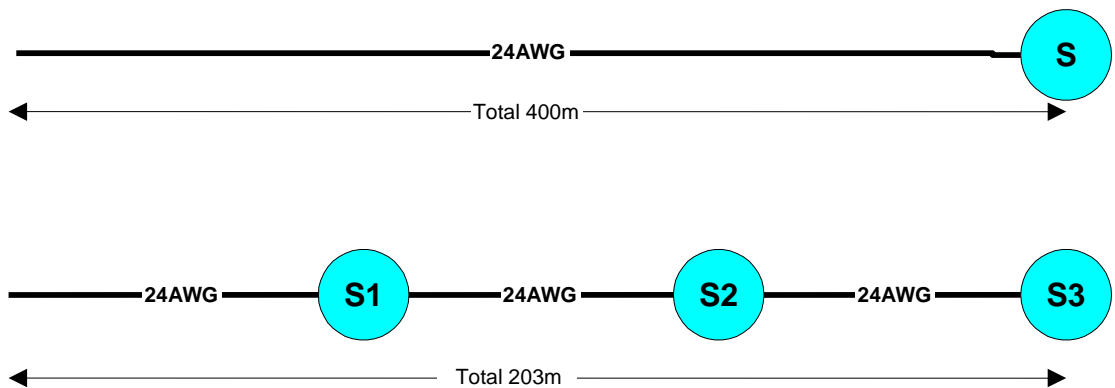

Figure B.5 – Custom cables
- For a single run: Belden 88102 has 24AWG cores that give a resistance of 76  $\Omega$  per km, which means a maximum single run of 400 m (see Figure B.5).
- A common network with three equally spaced sensors (see Figure B.5): the cable to sensor S1 is conveying 60 mA, the cable to sensor S2 is conveying 40 mA and the last cable to S3 is conveying 20 mA. The total voltage drop is  $(0.06 + 0.04 + 0.02) * (2 * 203/3) * (76/1000) = 1.24$ , which gives a maximum run of 203 m in this configuration.